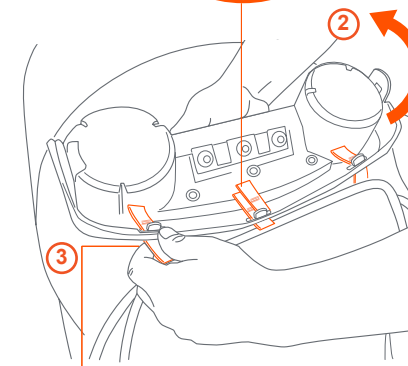

Fig. 6c
(3) Insert the remaining straps into the tray slots (Fig. 6c).